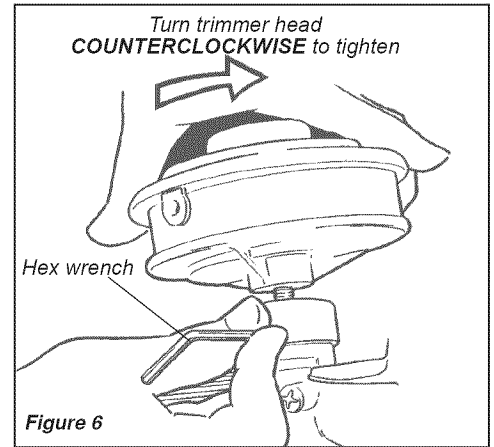

Figure 6
The throttle lever free play should be approximately 3/16-1/4 inch (4-6 mm). See Figure 6. Make sure that the throttle lever operates smoothly without binding. If it becomes necessary to adjust the lever free play, follow the procedures and illustrations that follow.
4. Rotate the tool holder and shaft until the notch in the holder aligns with the notch on the gearcase flange, and use the long end of the hex wrench to lock the output shaft in position. See Figure 6.
6. Using hand pressure only, tighten the trimmer head firmly on the gearshaft. See Figure 6.
Slide the ignition switch to the "ON" position. See Figure 6.
While depressing the throttle lock button, release the throttle lever. See Figure 6.